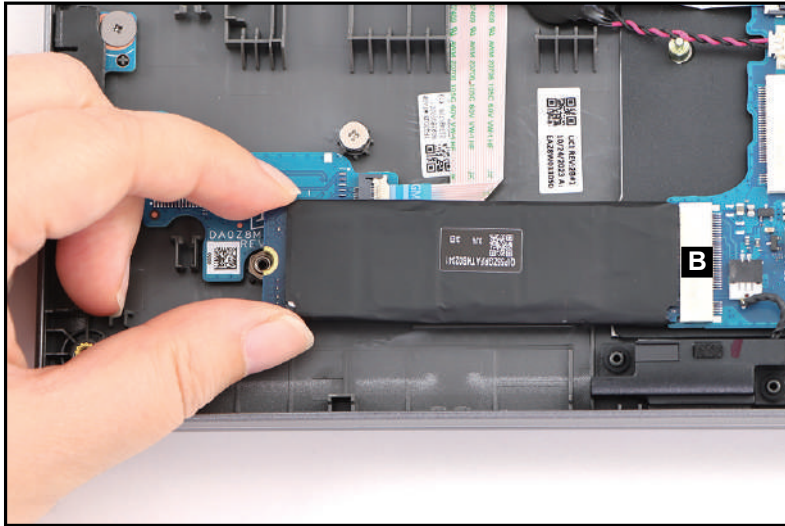

Figure 3-20. SSD Module Removal
3. Disconnect the SSD module from the mainboard connector (B) (Figure 3-20). Then remove the SSD module.